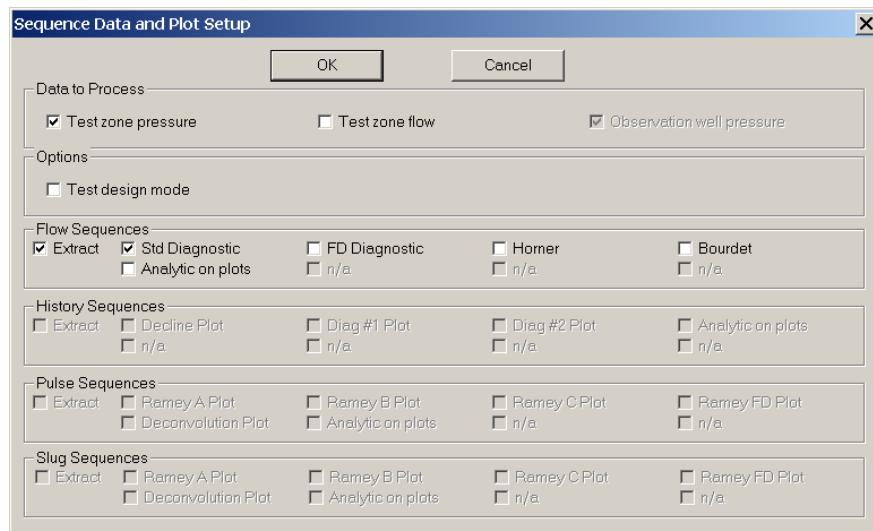

Figure 11.8 Sequence Data and Plot Setup Dialog
(1) Select **Auto Setup**→**Sequence Plots**.
(2) A dialog will appear as shown in Figure 11.8.